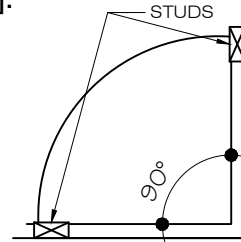

FIG.2
3. Ensure that there is sufficient structural support behind your shower wall to bare the weight of the door. If such is not the case, then prior to the installation of your shower wall you will need to reinforce the walls with wooden studs. see [FIG. 2].